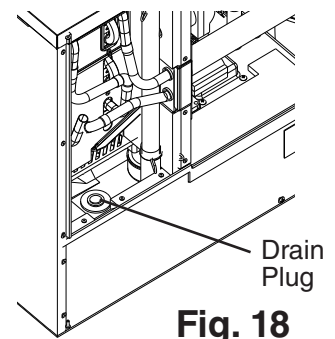

Fig. 18
- 7) Remove the front insulation panel. Next, remove the drain plug located in the bottom of the water tank. Allow the water tank to drain. See Fig. 18.